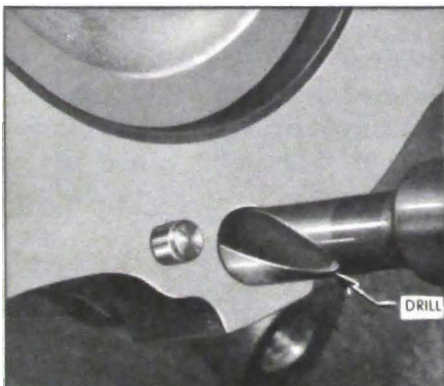

Figure 2-63—Drilling Out Damaged Threads
1. Prepare the hole. See Figure 2-63.